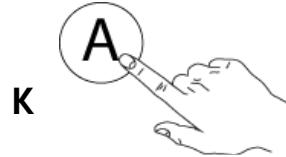

Fig.18
- 1- Press button "K" to select automatic washing cycle. (Fig.18)